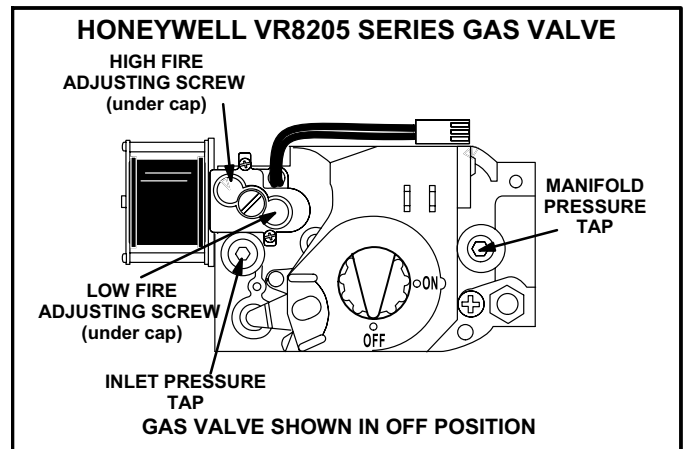

FIGURE 34
Gas Valve Operation (Figure 34)
- 6 - *Honeywell VR8205 Gas Valve* - Turn knob on gas valve clockwise  to **OFF**. Do not force. See figure 34.